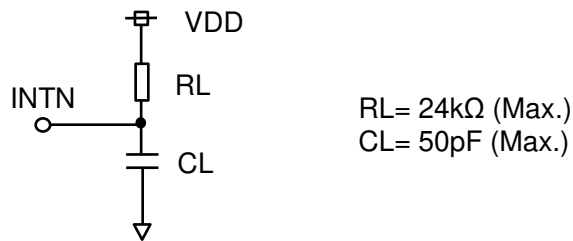

Figure 9.2. INTN Output Load Circuit
- \* 8. When the load circuit of Figure 9.2 is connected